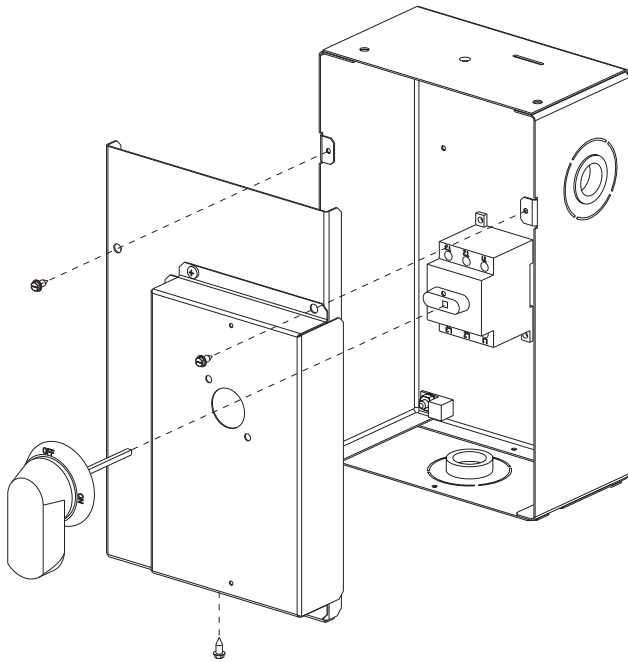

Fig. 33 — Handle and Shaft Assembly for NFD
2. Remove (3) hex screws on the NFD enclosure - (2) on the face of the cover and (1) on the bottom (see Fig. 33).
9. Secure the handle to the painted cover with (2) screws and lock washers supplied.
10. Engaging the shaft into the handle socket, re-install (3) hex screws on the NFD enclosure.